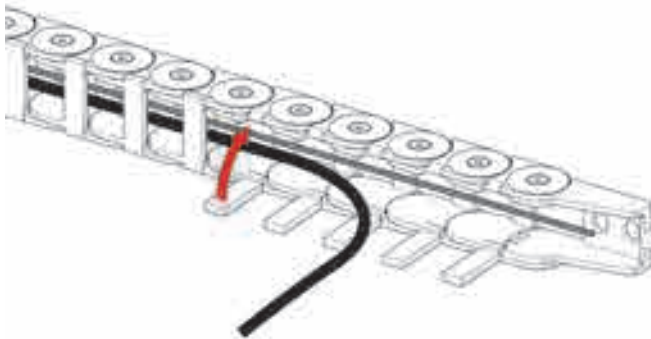

Figure 4-44 Route cabling and close flaps
2. Route all hoses and cables into the cable tray. Clip the flaps to trap the cables in the cable tray (see Figure 4-44 on page 128).